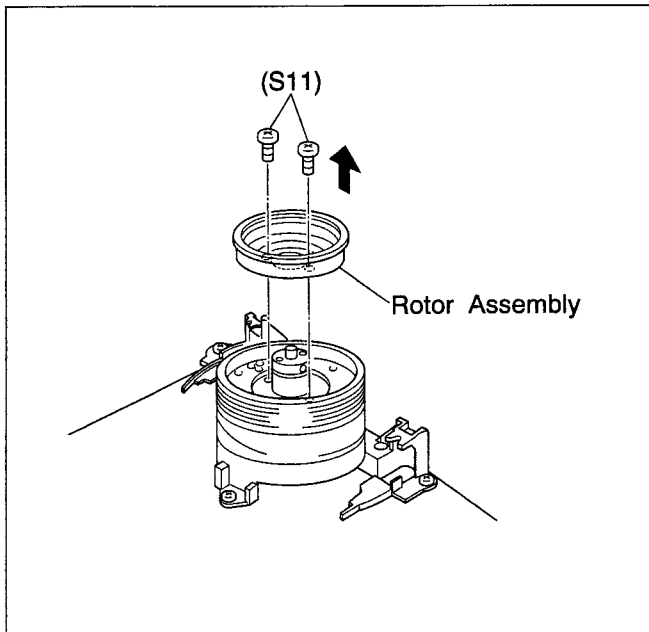

Fig. 2-3-3
- (2) Overlap holes (a) of the upper drum assembly with holes (b) of the rotor assembly and secure with 2 screws (S11) as indicated in Fig. 2-3-3.